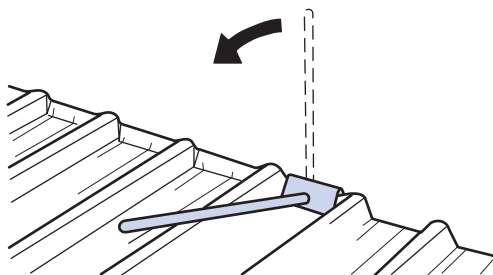

FIGURE 10.1.4:
- Hold the handles together to clamp the tool onto the tray, and pull them to turn-up the tray 90° (Figure 10.1.4).